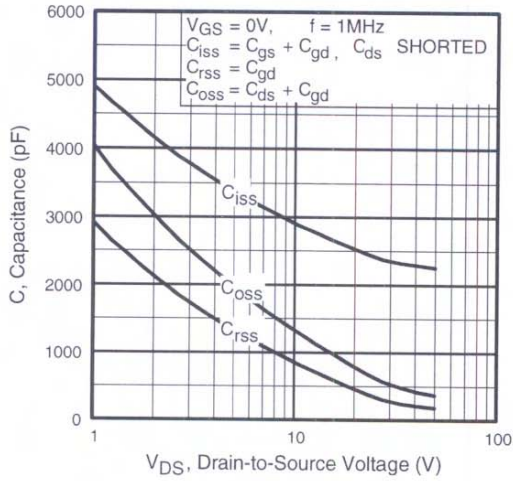

Fig 5. Typical Capacitance Vs. Drain-to-Source Voltage
| C_{iss} | Input Capacitance | — | 2400 | — | pF | $V_{GS} = 0V$ $V_{DS} = 25V$ $f = 1.0\text{MHz}$, See Fig. 5⑤ |